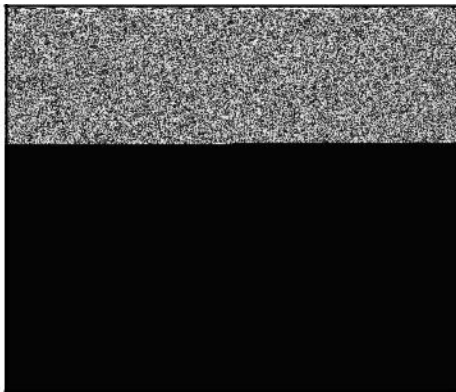

Figure 25
1. Place clutch on starter shaft (A, Figure 25). Rotate clutch until it drops into place (B).